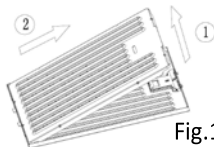

Fig.10.1
- Filters are used to absorb the grease particles formed during cooking process. The filters must be removed and cleaned every week, depending on the frequency of usage. The filter can be removed by sliding out the 2 S/S panel (Fig10.1) Clean the filter either by hand or in the dishwasher.